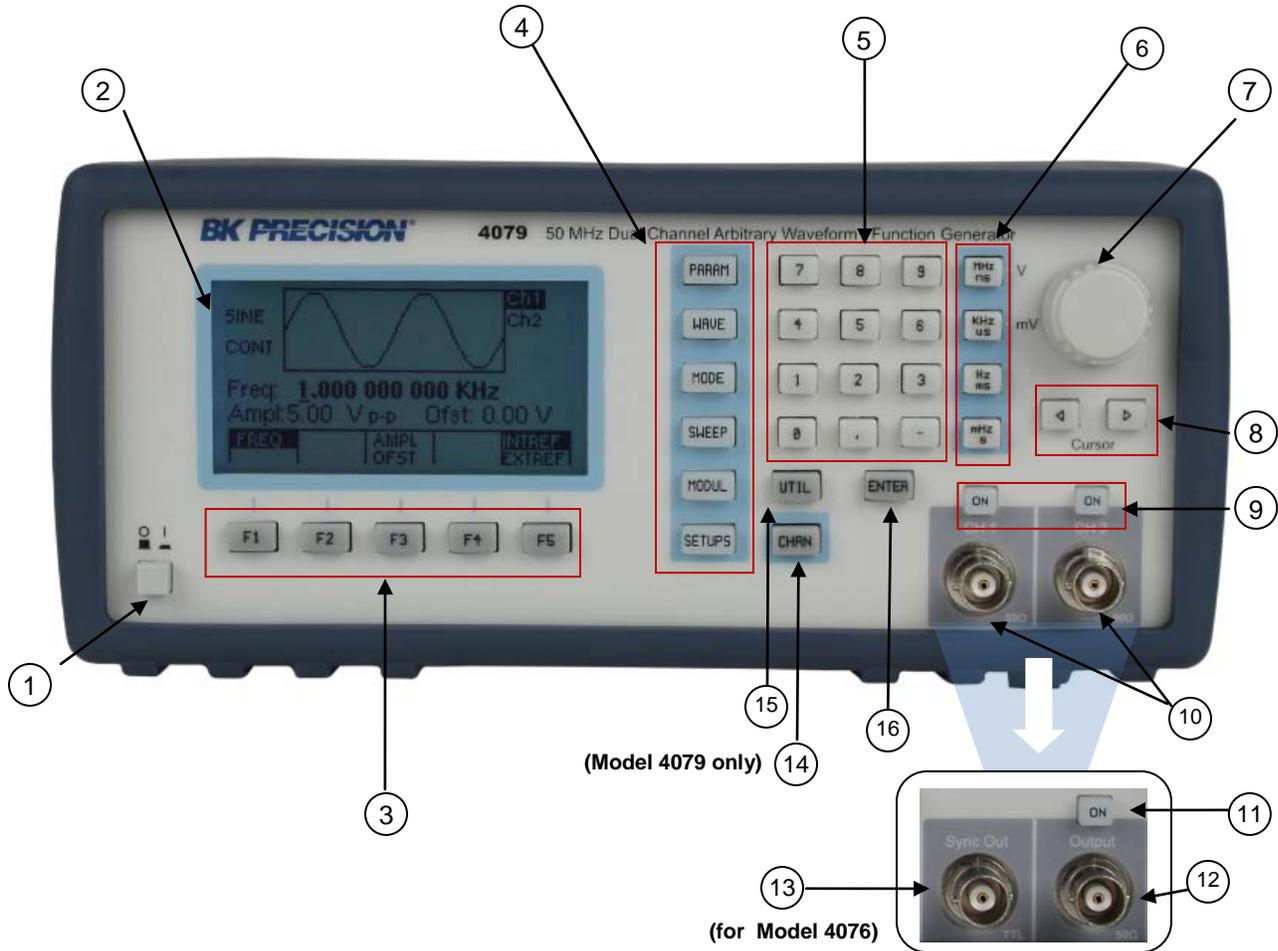

Figure 3.1 - Front Panel View
The front-panel controls select, display, and change parameter, function, and mode settings. They also include the keys you use to program and generate arbitrary waveform output. *Refer to Figure 3.1.* Use the rotary input knob and the cursor movement keys to enter data into the waveform generator.
2. **CH1 Sync** - This is the sync output of channel one. For model 4076 the sync output is in the front panel of the instrument (see Figure 3.1).
4. **CH2 Sync** - This is the sync output of channel two. For model 4076 the sync output is in the front panel of the instrument (see Figure 3.1).